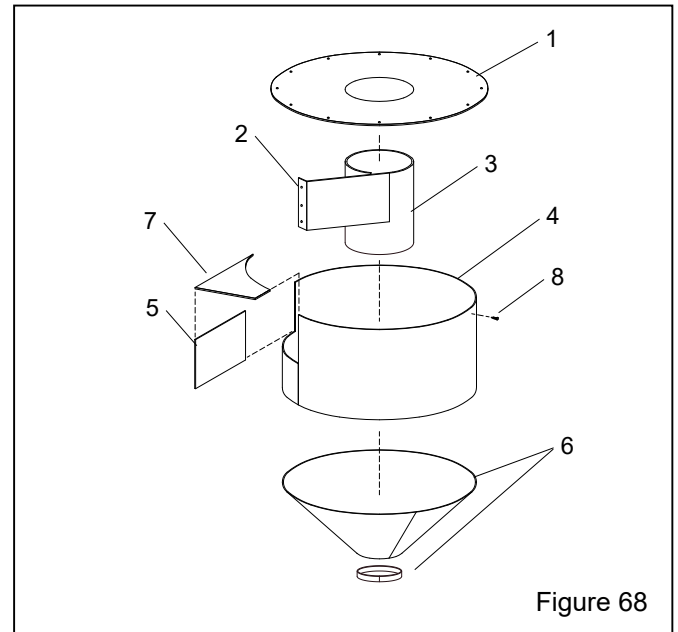

Figure 68
10.11 Reclaimer Rubber Liners, 600 cfm – Figure 68